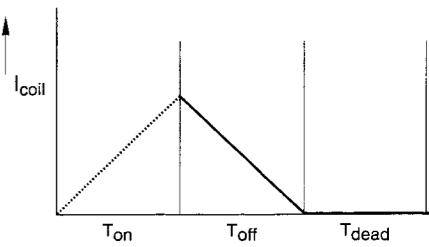

Fig. 9.2
1.3 General way of working (Fig 9.2)
The state of the power-supply can be divided into three areas (see Fig. 9.2):